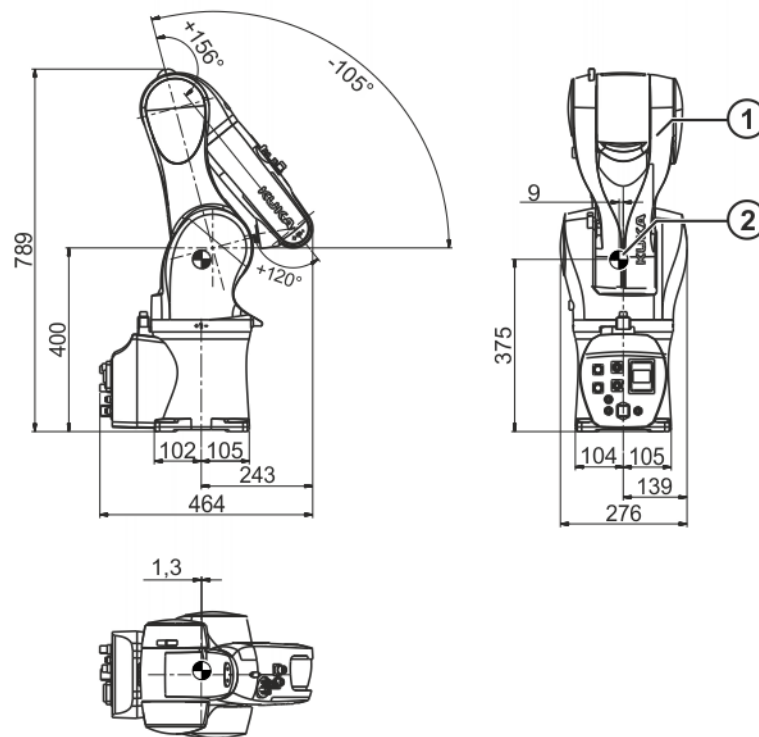

**Fig. 7-1: Transport position**
**Transport position** The robot must be in the transport position before it can be transported (>>> Fig. 7-1 ). The robot is in the transport position when the axes are in the following positions: